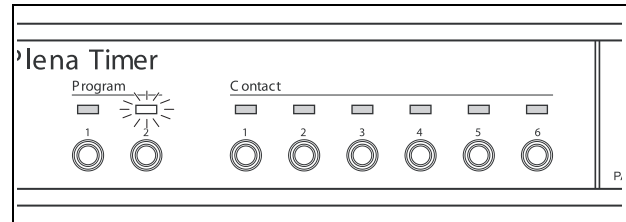

figure 7.1: Selecting a program
- 2 Momentarily press and release the Set button. The Program LEDs on the front panel will be alternately lit (see figure 7.1).